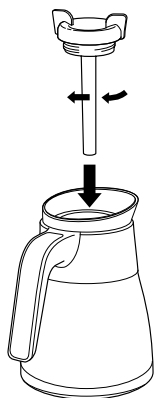
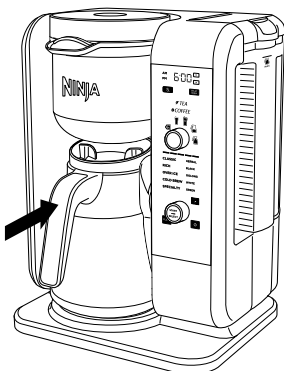

Fig. 7
Fig. 8
- Twist the brew-through lid clockwise onto the carafe to lock into place (Fig. 7) and center the carafe below the brew basket (Fig. 8).